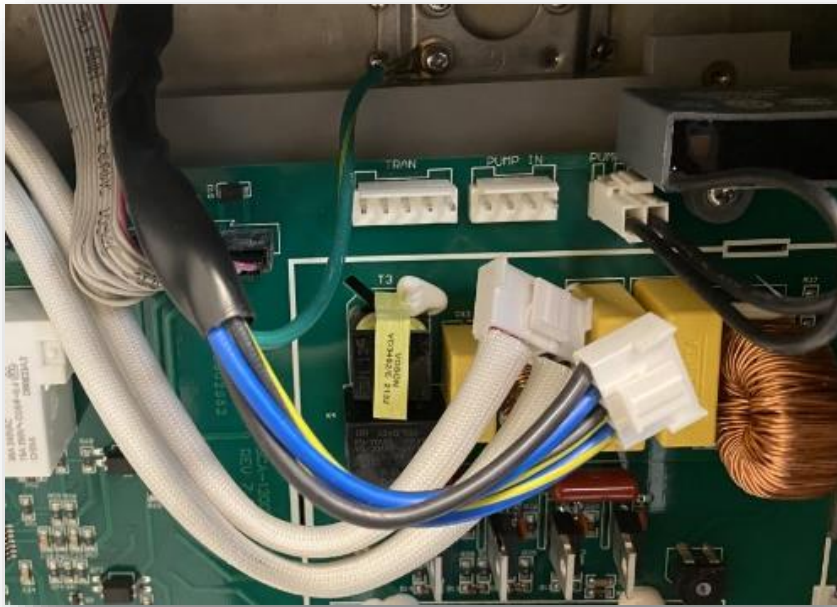

Figure 49 – Transformer and Pump Connectors
- ii. If the fuse measures open (OL), the fuse is blown. Replace the fuse.
- b. If the fuse blows again immediately upon powering up the SCA, remove power from the SCA and unplug the Pump and Transformer connectors from the PCB (**See Figure 49**). Replace the fuse.